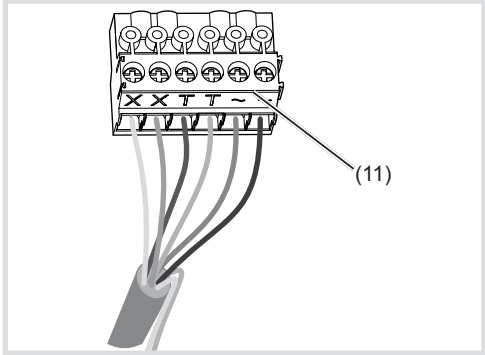

Figure 6: Wired connection terminal block
- Pull off connection terminal block (11) from the device.
- Connect the wire pair of the 2-wire bus cable to the terminals **XX** of the connection terminal block (Figure 6).
- Connect door release to the terminals **TT** of the connection terminal block (figure 6 and 7) if required.
- For call push-button backlighting connect 12 V~ lead from the power transformer to the terminals ~ of the connection terminal block (Figure 6 - 8).